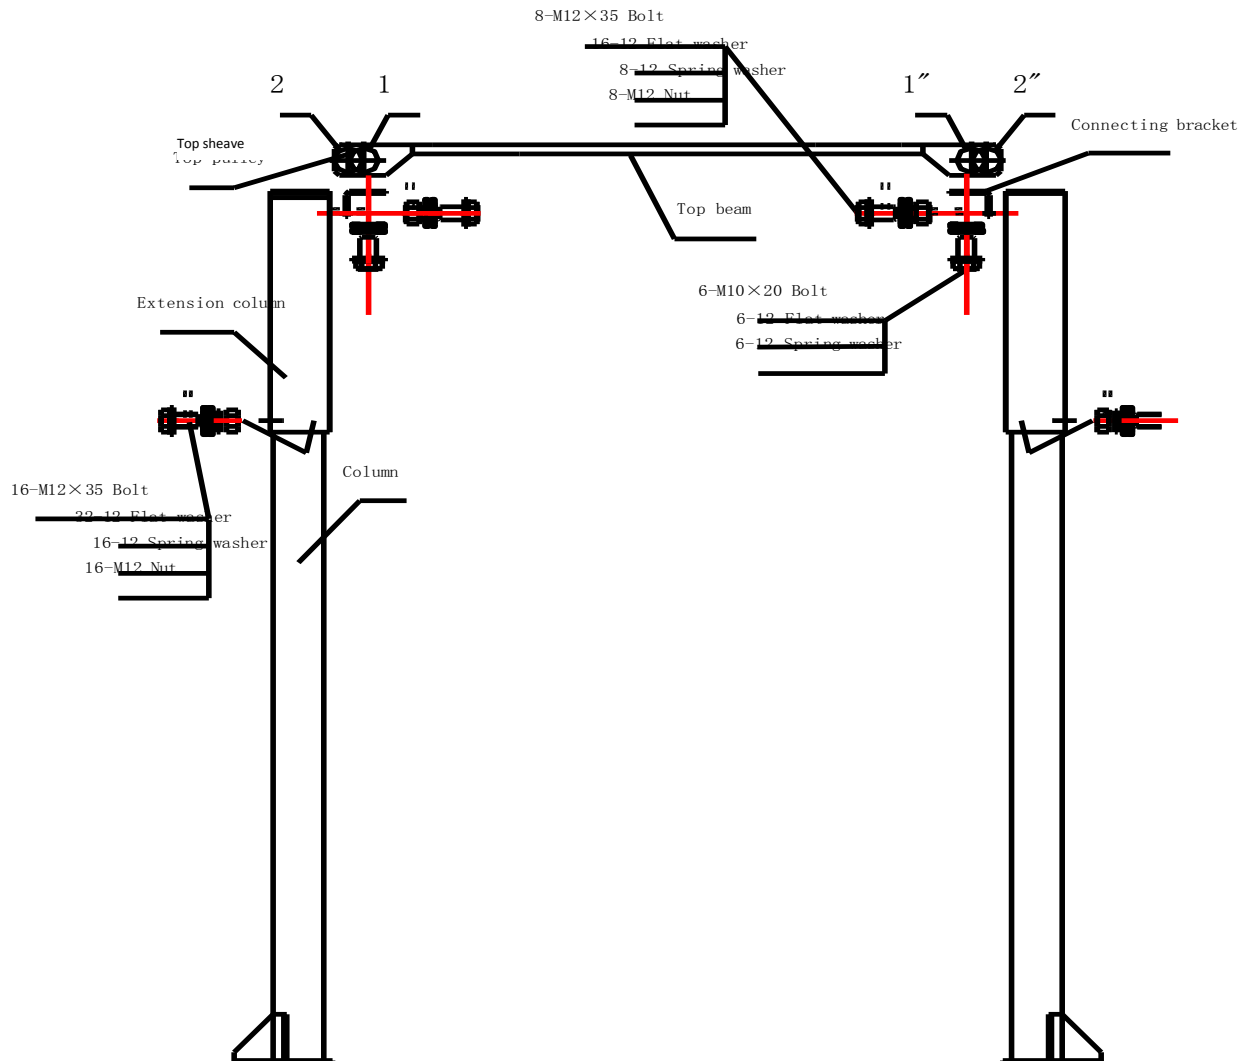
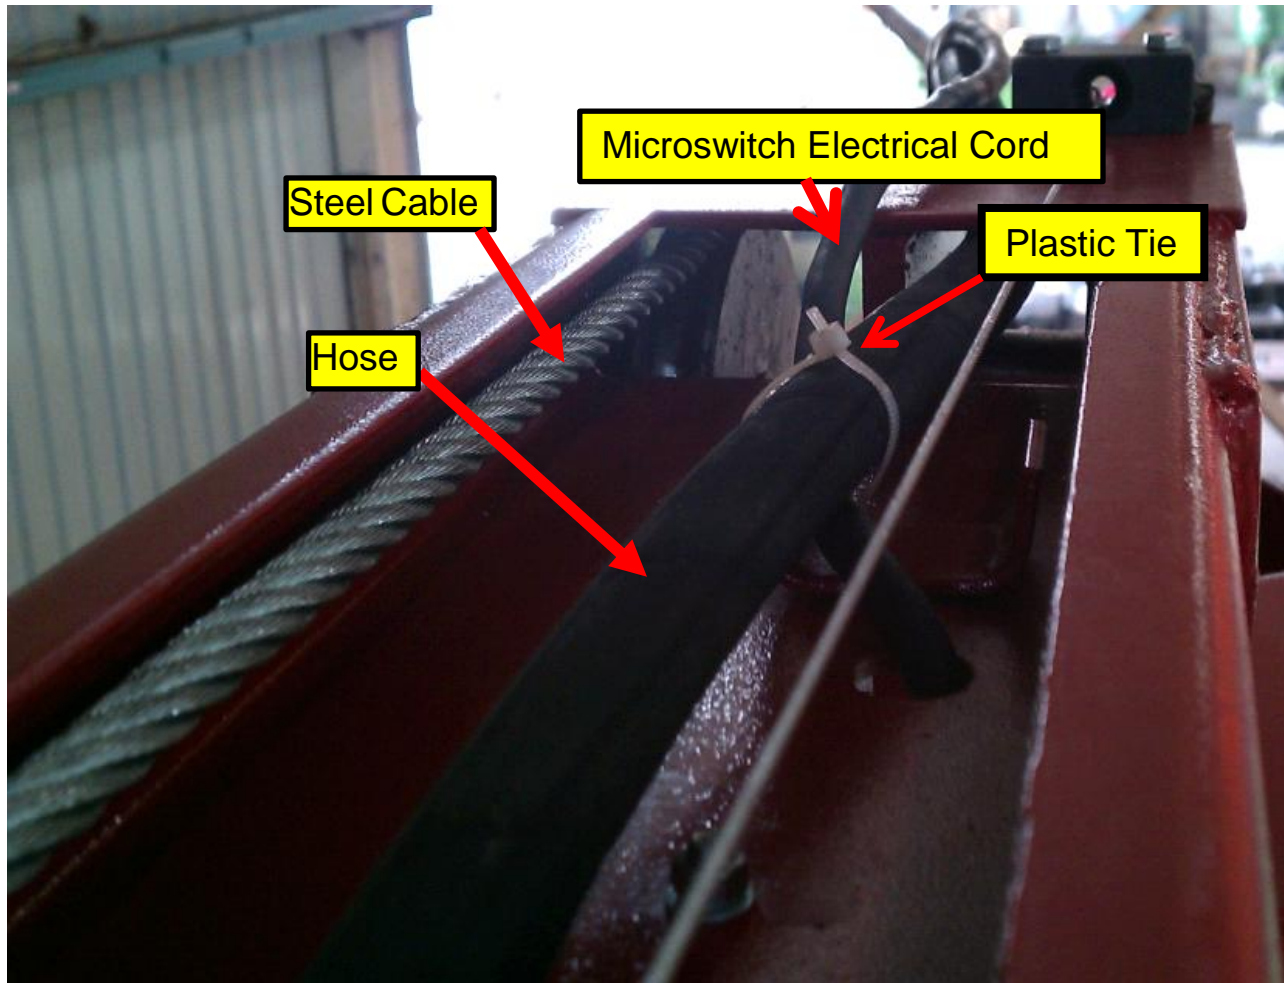

Figure 6
Figure 11
After attaching the column extension to the idler column, position the idler column at the designated chalk location. Lift the overhead beam to its highest position and use the fasteners to attach it to the columns (as shown in Fig. 6). When installing the overhead beam, ensure the microswitch support adjacent to the power side column is positioned at the power side column location. Route the microswitch cord through the end of the overhead beam and down the outside of the column as shown in Fig. 11.
* Connect the microswitch cord as shown in Fig. 11 and Fig. 12.